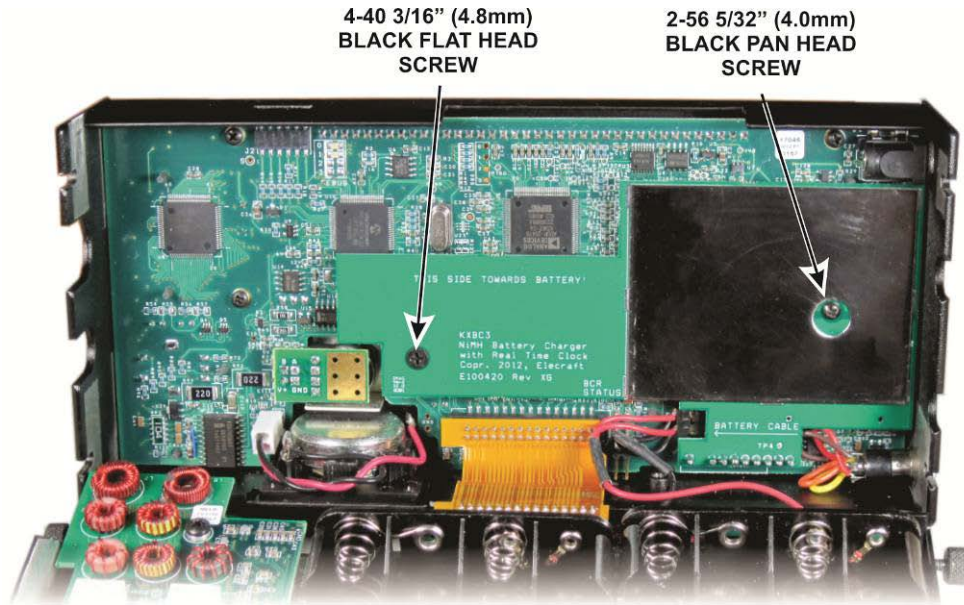

Figure 7. Securing the KXBC3 Module.
- Secure the KXBC3 module as shown in Figure 7 using the new hardware supplied.